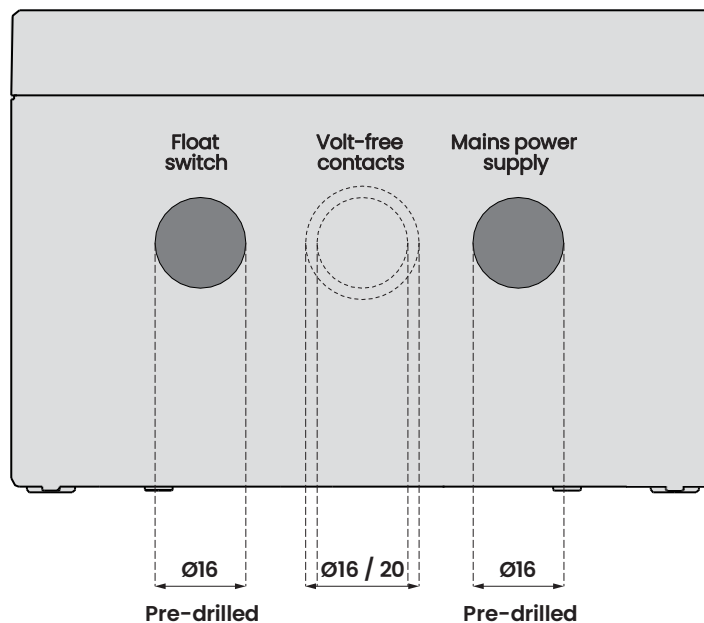

Figure 1. Drilling the mounting panel
- For the volt-free contacts, you will need to drill the appropriate diameter hole as shown in Figure 1 to add the M16 or M20 cable gland. The cable gland required would depend on the diameter of signalling cable used.
1. Loosen the float switch cable gland located on the underside of the AquaSafe Alarm panel, as shown in Figure 1.